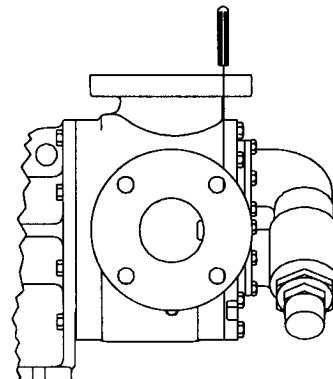

FIGURE 20
6. The head can now be assembled on the pump. Tilt the top of the head away from the pump slightly until the crescent enters the inside diameter of the rotor and rotate the idler until its teeth mesh with the rotor teeth. Line up mark on head and casing, which were previously marked to insure proper reassembly. Be sure idler pin, which is offset in pump head, is positioned toward and equal distance between port connections to allow for proper flow of liquid through pump. Tighten the head capscrews (or nuts onto studs in the Q size). Check the end clearance using a feeler gauge as illustrated. See **Figure 20** on page 10. If end clearance is not correct, refer to section on **ADJUSTING HEAD GASKET END CLEARANCE** on page 10.
If the pump is in the pipeline and not accessible through ports, remove the head and remove gaskets. Put the head back on and measure the gap as shown. See **Figure 20**. After determining the gap between head and casing, select a combination of gaskets with approximately 25% more total thickness than the feeler gage plus required end clearance. See **Figure 18**. **Note:** gaskets will compress when head is tightened down. Remove head, install all gaskets and the O-ring, and then install head. Tighten the head capscrews and then check the pump by making sure the pump turns over freely by hand.